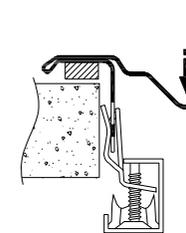

Fig 3
11. Rotate the clips to the direction shown in fig. 3 to clear the cut out. Pass the sink through the worktop cut out from above, align the sink straight to the cut out hole and worktop front edge.